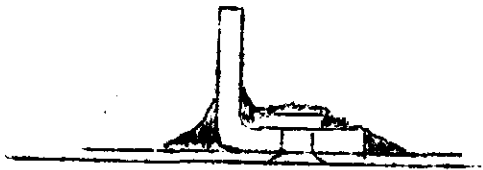

FIG. 6
12. With an acid brush (cut down to about 1/4" long bristles) apply filleting sealant PR-1321 Class B (made also by Products Research) which meets MIL-S-8784A (1). Use the B-2 type which has 2 hours pot life. All rivet heads, corners, etc. must be coated. See Fig. 6